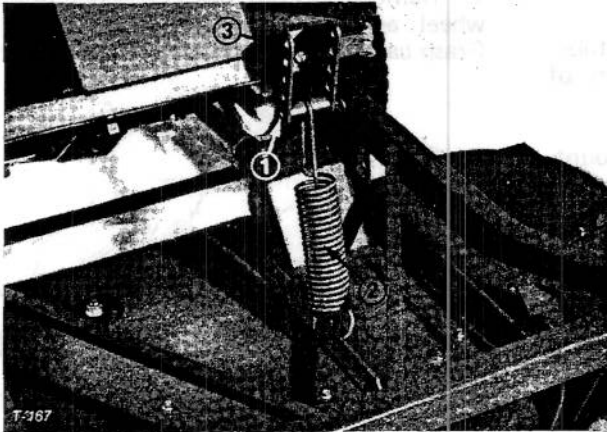

Figure 90
2. Remove clevis pin from bracket to separate spring from bracket (Fig. 90).